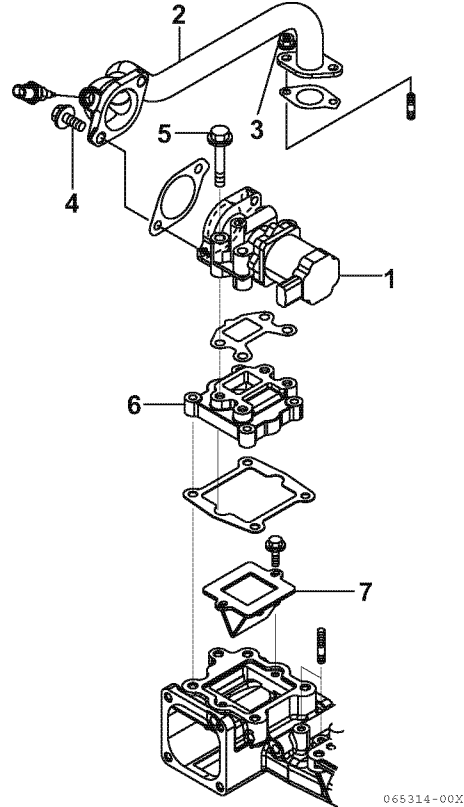

Figure 6-120
2. Remove the EGR valve (1, **Figure 6-120**) connectors. (For inspection and cleaning, do not remove the connectors.)
3. Loosen the EGR cooler-side nuts (3, **Figure 6-120**) of the EGR pipe (2, **Figure 6-120**), and then remove the EGR valve-side mounting bolts (4, **Figure 6-120**).
4. Loosen the EGR mounting bolt (5, **Figure 6-120**) and remove the EGR valve.
5. Remove the EGR valve spacer (6, **Figure 6-120**).
6. Remove the lead valve (7, **Figure 6-120**).